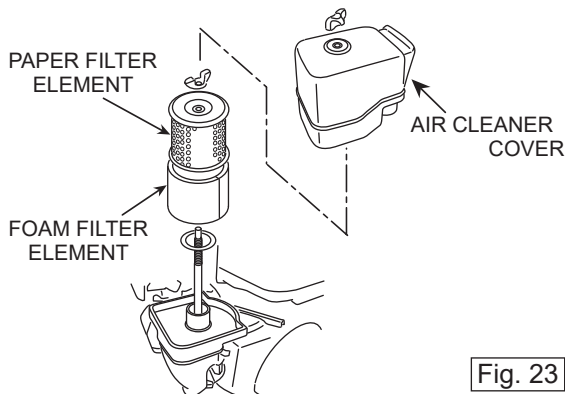

Fig. 23
- If the element cannot be cleaned, replace it with a new one. (Fig. 23)